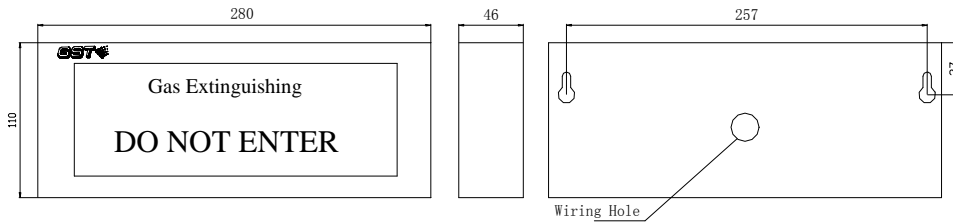

Fig.1 Appearance
1. Appearance of the indicator is shown in Fig.1.